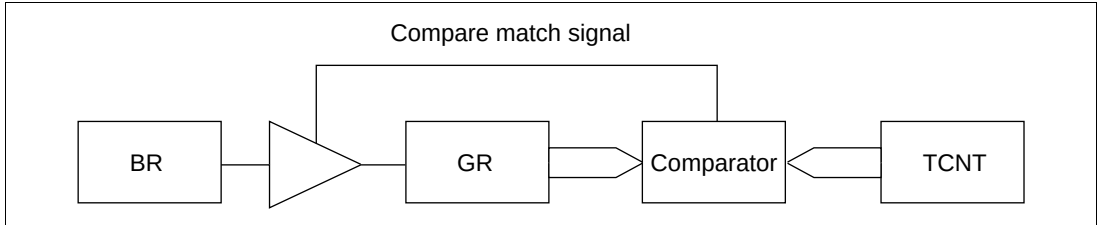

**Figure 10.45 Compare Match Buffer Operation**
**GR is an Output Compare Register:** The value of the buffer register of a channel is transferred to GR when a compare match occurs in the channel. This is illustrated in figure 10.45.